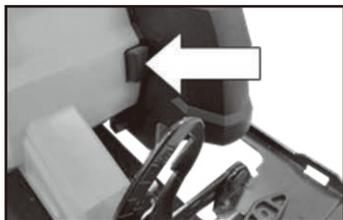

Fig. 1
1. Depress the spindle lock button Fig.1.